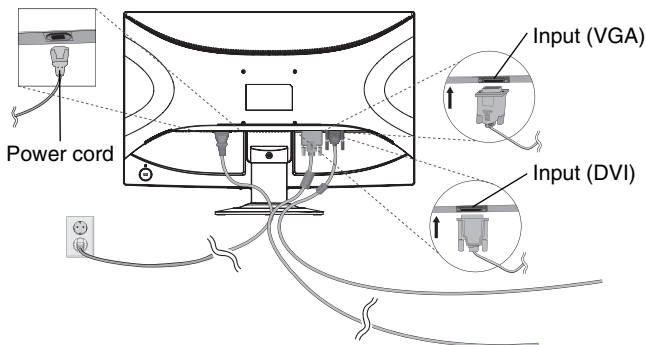

Figure C.1
3. Connect all cables to the appropriate connectors (**Figure C.1**).